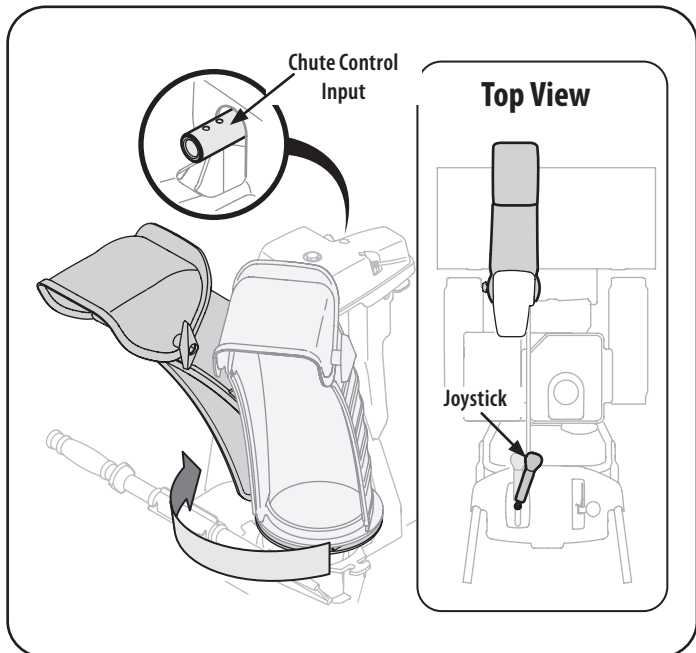
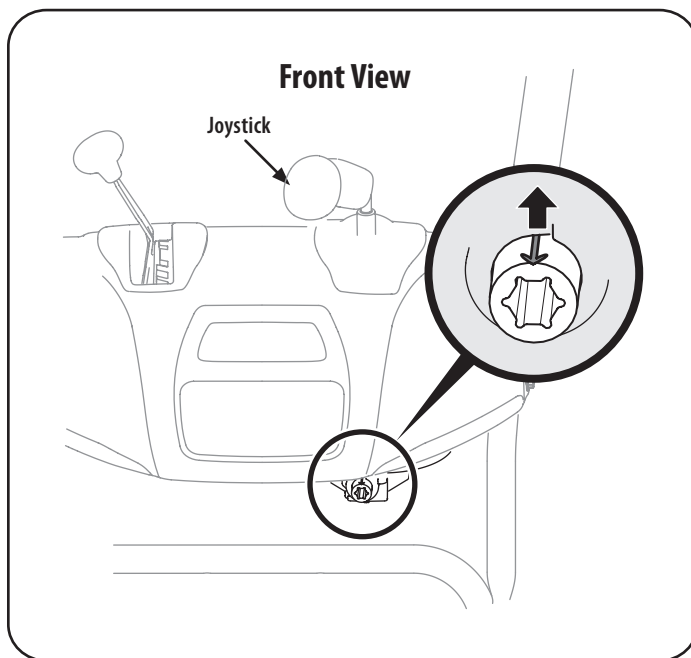

Figure 7
Figure 8
6. Squeeze the trigger on the handle panel joystick and rotate the chute by hand to face forward. The holes in the chute control input will be facing up. See Figure 7.
7. Rotate the joystick to the one o'clock position so the silver indicator arrow on the input shaft below the control panel points upward. See Figure 7.
NOTE: The joystick will be angled slightly to the right. See Figure 7 & Figure 8.